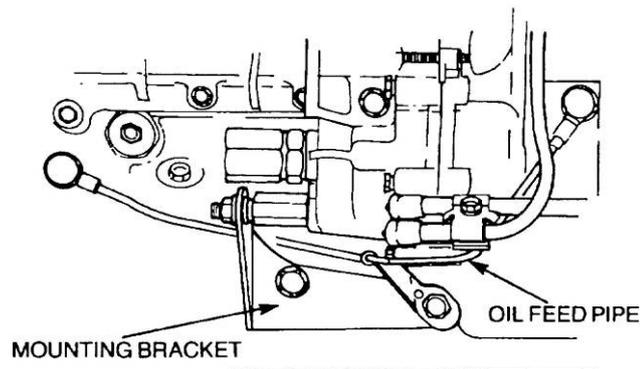

Figure 13 Removal of the Injection Pump Rear Mounting Bracket
- i. Remove the nut and washer securing the injection pump adapter to the rear mounting bracket (Figure 13).